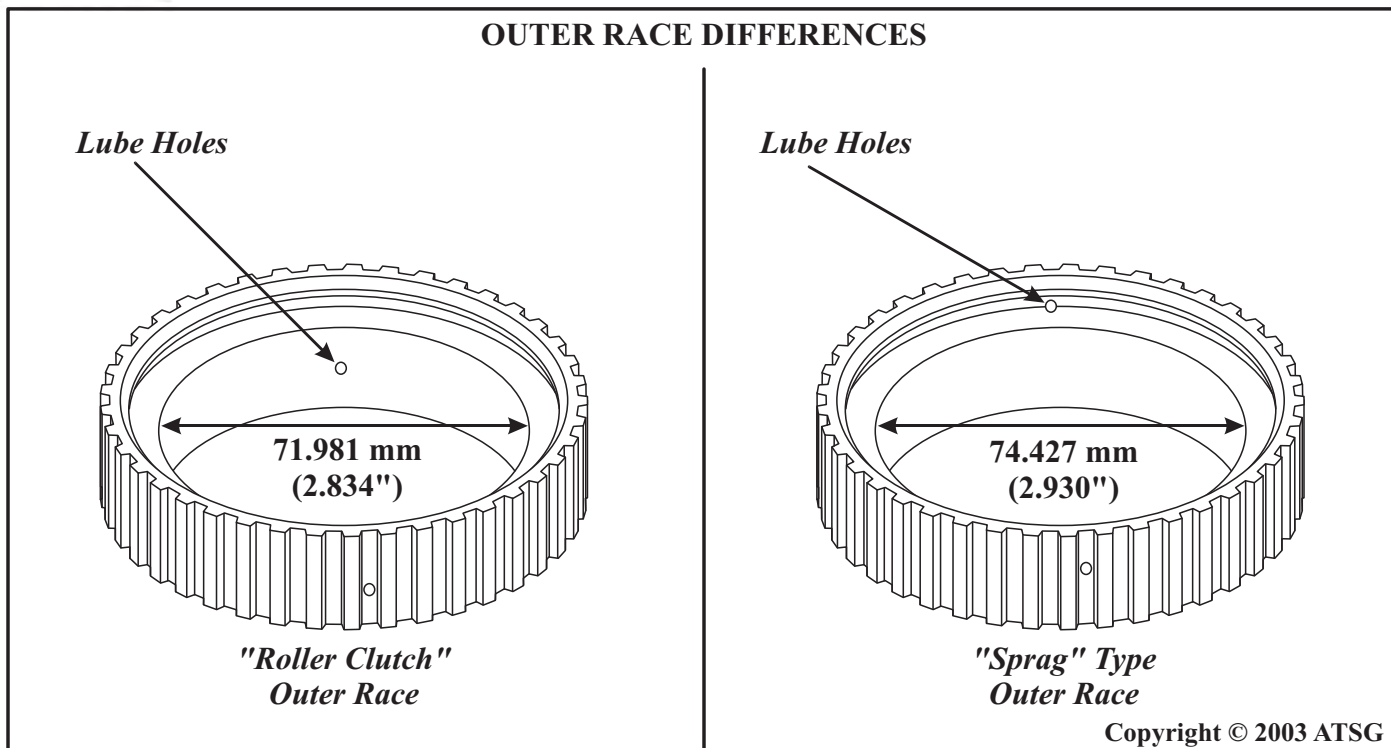

Figure 2
- (2) OUTER RACE - Lube hole positions changed and the inside diameter changed, as shown in Figure 2.